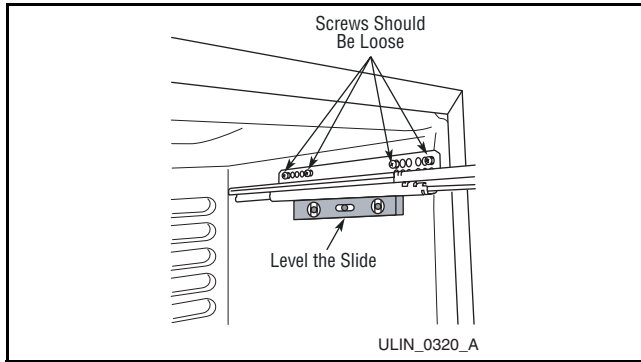

Figure 50
3. Retighten the screws (**Figure 50**).